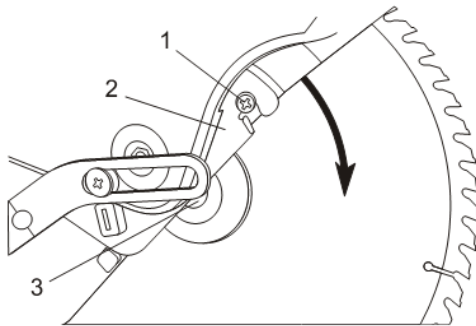

Fig. 32
1. Lift the cutting head up to its maximum height (Fig. 32).
2. Use a #2  $\oplus$  (not included) screwdriver and loosen the screw (1) in the secondary blade guard (2).
3. Slide the secondary blade guard upward to expose the blade screw (3).
6. Pull the secondary blade guard (2) down so the slot fits behind the head of the screw (1) (Fig. 32).